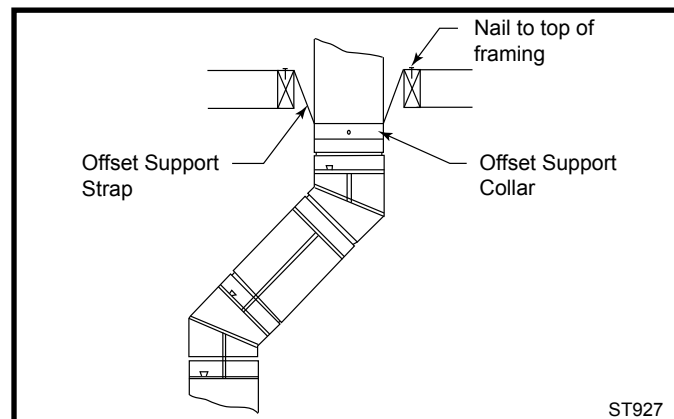

Figure 37 Offset support.
If any offsets are necessary in the vertical system, an Offset Support (OS) should be installed directly above the upper elbow of the offset. Install by attaching the offset support band to the pipe with two #8 x 1/4" sheet metal screws (minimum) and secure the offset support straps to surrounding structure. (Figure 37)